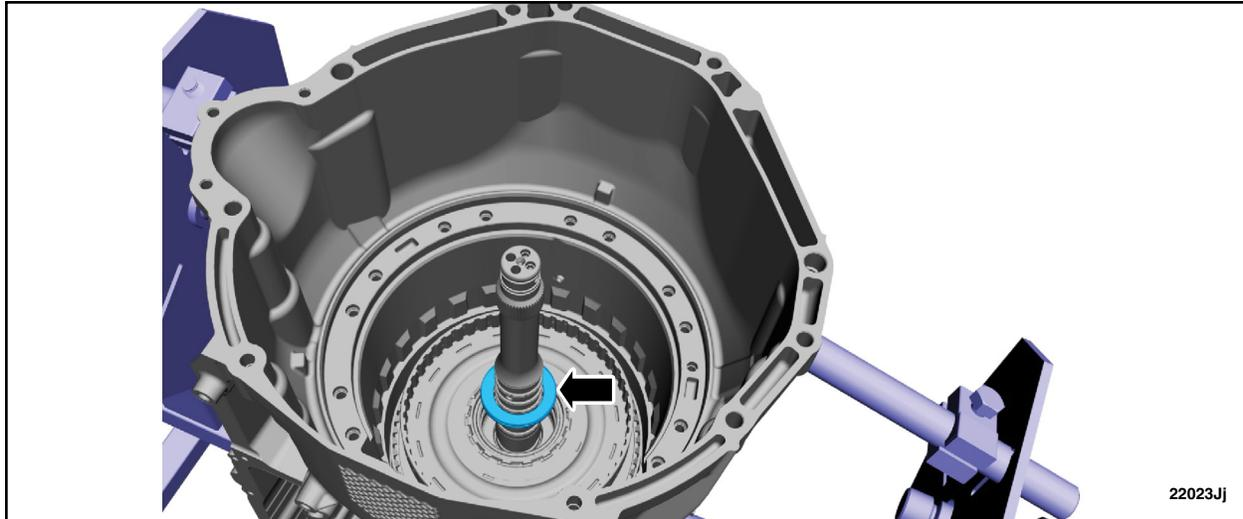

FIGURE 45
52. Install the correct selective shim. See Figure 45.